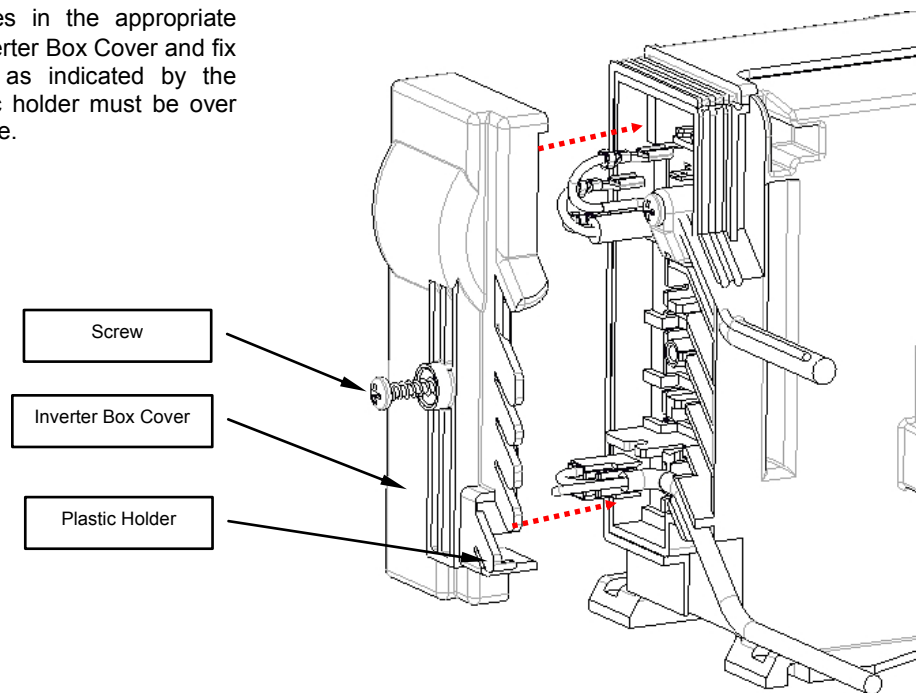

Figure 29 - Inverter Box Cover Fixing.
1. Put all the cables in the appropriate position, close the Inverter Box Cover and fix it using the Screw, as indicated by the Figure 29. The plastic holder must be over the Control Input Cable.